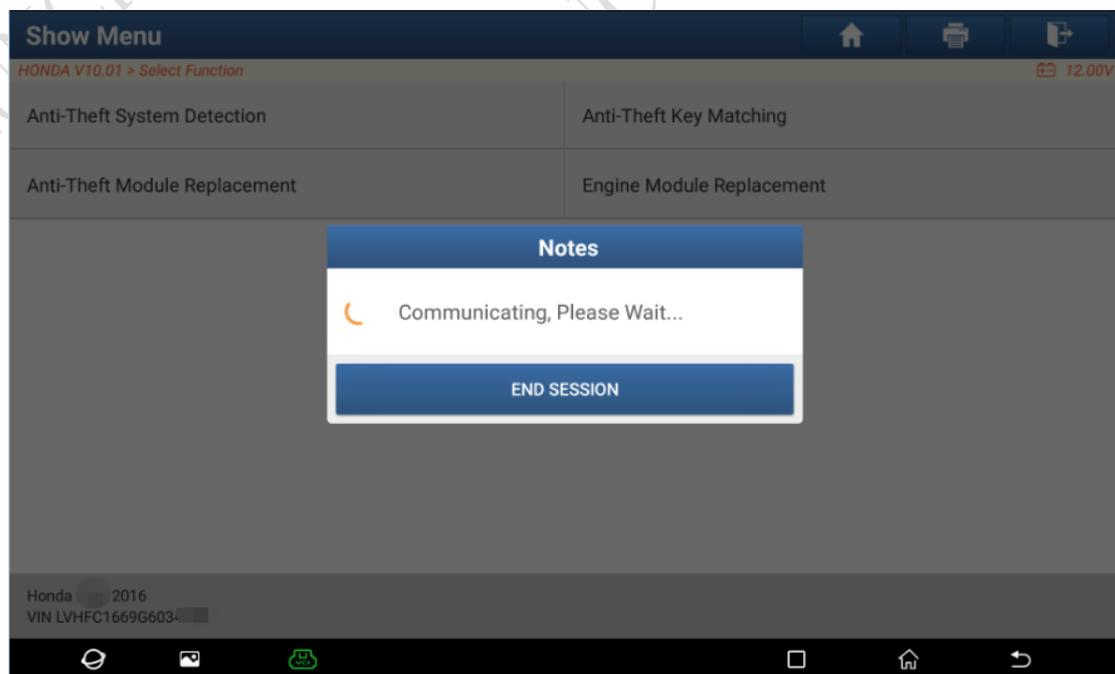

Figure 4
4. Perform interactive communication with Engine system, perform interactive communication with Anti-theft system, and perform lock cylinder control unit initialization, as shown in Figure 4.